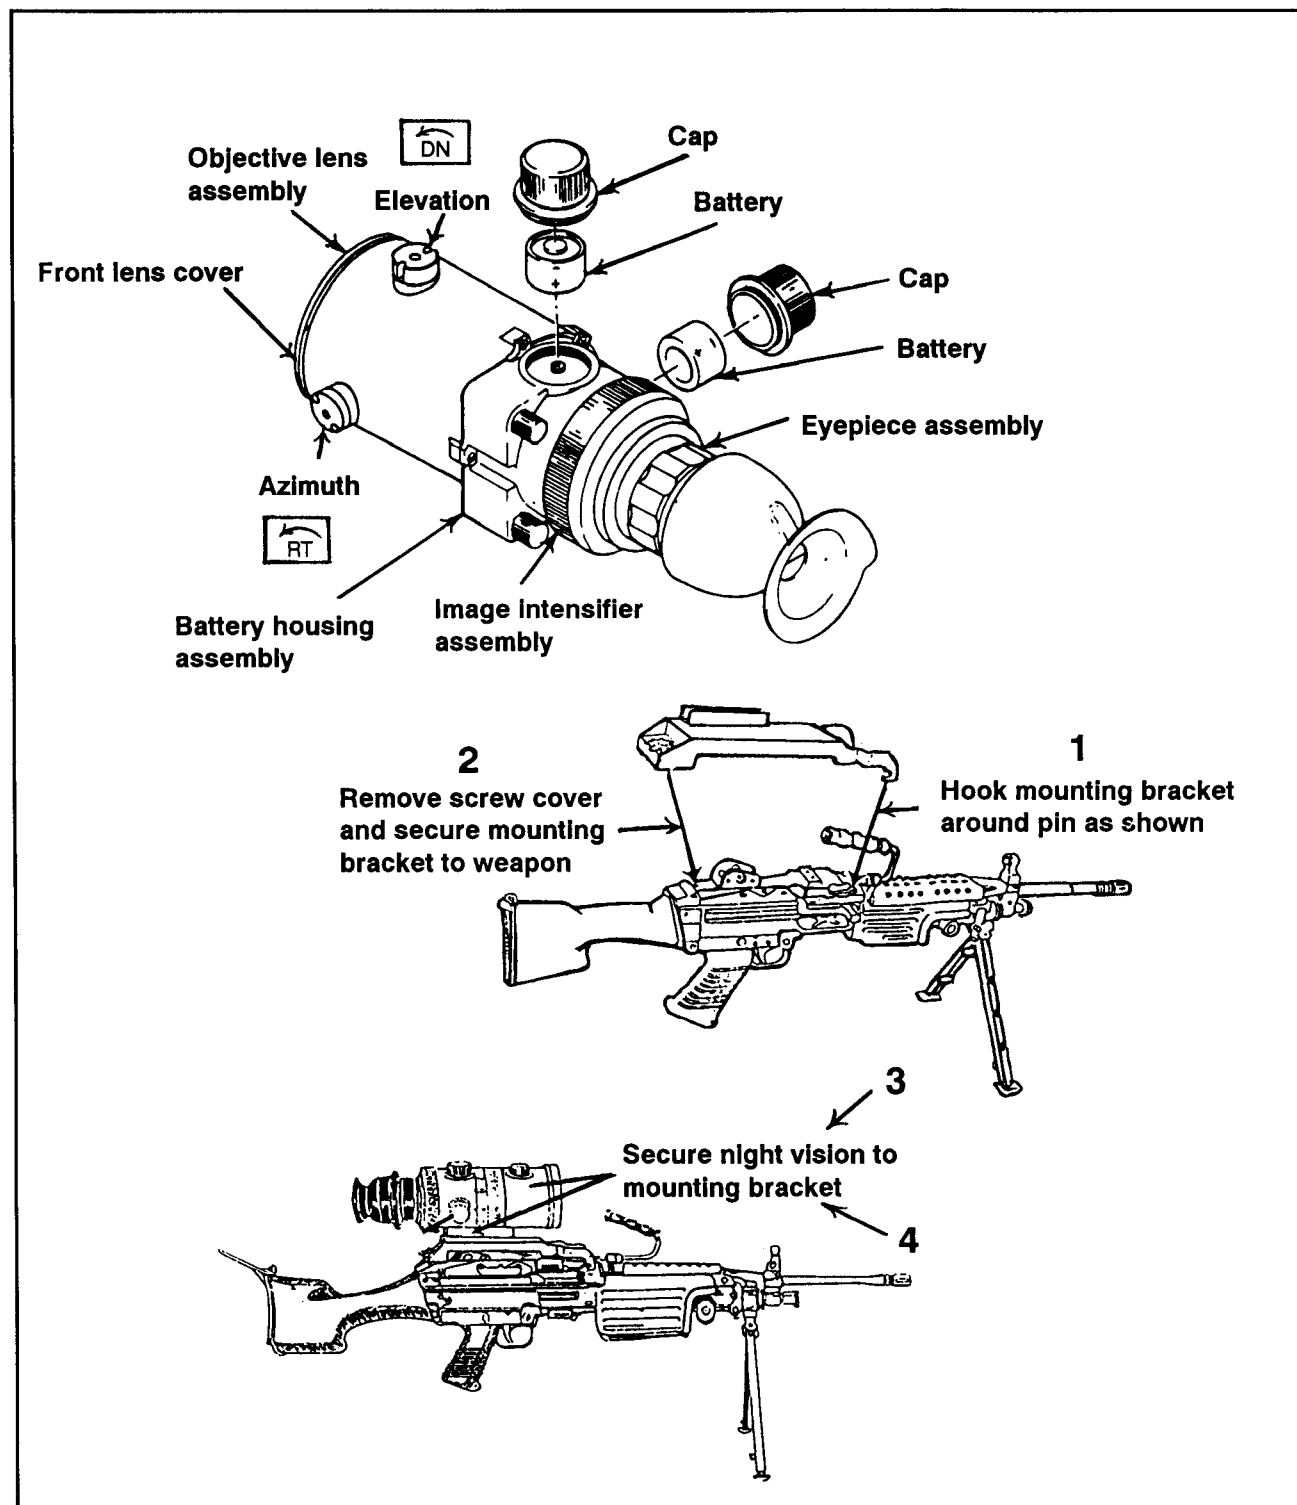

Figure 5-21. Mounting the AN/PVS-4.
(1) Place the mounting bracket on top of the feed cover mechanism assembly so that the two forked ends are secured around the headless pins.
(2) Remove the screw cover behind the rear sight assembly, and screw the bracket knob in until it is tight.
(3) Position the AN/PVS-4 on top of the bracket so that the mount of the AN/PVS-4 is aligned with the mounting knob of the bracket.
(4) Turn the mounting knob clockwise until the AN/PVS-4 is tight (Figure 5-21).